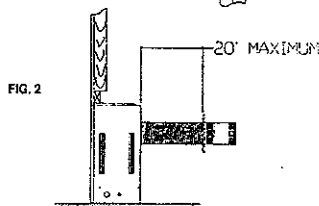

FIG. 2
Locate vent opening on the wall. Cut a hole through the exterior wall allowing for a 11" x 11" minimum inside framing or an 8 1/2" diameter hole if venting through a non-combustible wall. Center wall thimble over 11" x 11" framing to route vent pipes through thimble and wall. See Fig. 2.
4. Avoid cutting joists by offsetting the flex pipe. See Fig. 2.